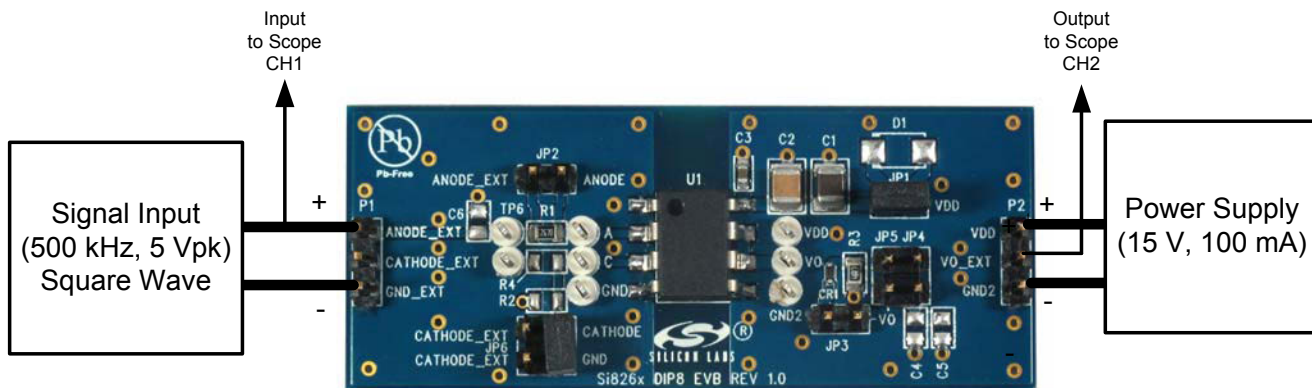
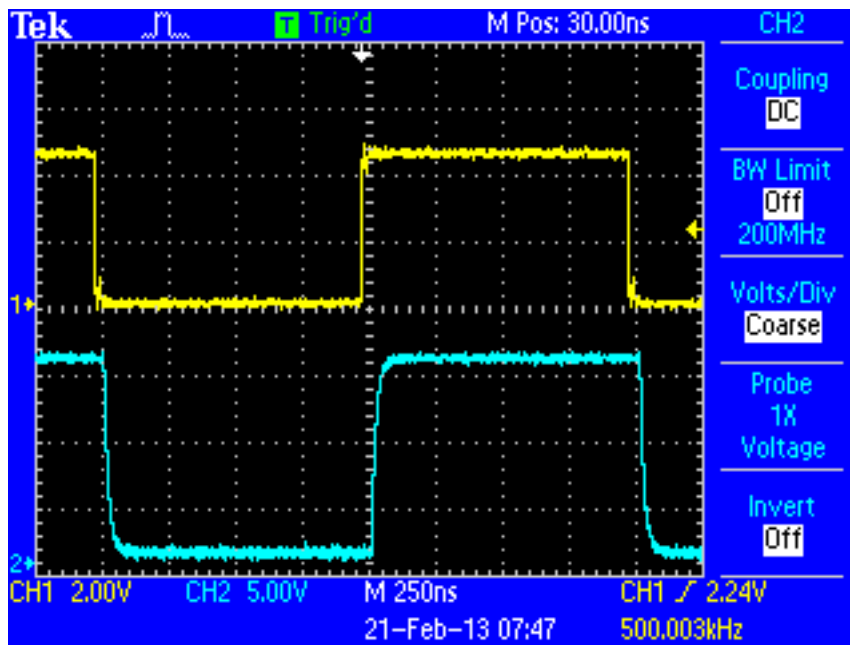

Figure 5. Summary Diagram and Test Setup
Figure 6. Oscilloscope Display of Input and Output
Figure 5 illustrates the connection diagram to demonstrate the Si826x-DIP8 EVB. The other footprint boards demonstrate in a similar fashion. This demo transmits a 500 kHz (5 V peak, 50 percent duty cycle) square wave through the ISOdriver to its output (Vo). In this example, VDD is powered by a 15 V supply. Figure 6 shows a scope shot of CH1 (input) and CH2 (output). Note that if a user wants to evaluate an LED Emulator Input ISOdriver other than the ones pre-populated, this can be accomplished by removing the installed device and replacing it with the desired footprint-compatible ISOdriver device.
To run the demo, follow the instructions below. Review Figure 5 and Figures 11 through 14 if necessary.
5. Adjust the level indicator for all channels to properly view each channel as shown in Figure 6.
A 500 kHz square wave should display on Channel 1 of the scope for the input and a slightly delayed 5 V version of this square wave should display the output on Channel 2, as shown in Figure 6. This concludes the basic demo. For more advanced demos, see the following section.